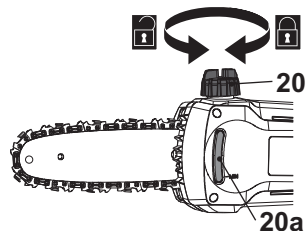

Fig. 12
1. Place the product on a stable, level surface with the oil tank cap (20) facing upward. We recommend laying a non-flammable sheet under the product.
2. Unscrew and remove the oil tank cap (20) (Fig. 12).